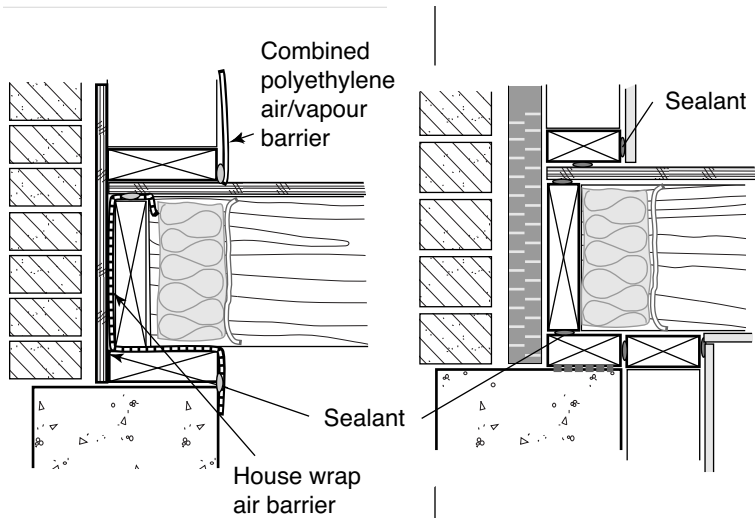

FIGURE 10
- ◆ Install an airtight barrier in the wall structure. Ensure that the air barrier system is continuous through all components of the envelope, minimizing the potential for air flow around windows and doors, around electrical outlets at floor and partition wall assemblies, and where electrical and plumbing systems are routed from the exterior wall to interior partitions. Air-barrier systems must be continuous, structurally supported, resistant to air flow, durable, and easy to maintain over time (see Figures 10 and 11).